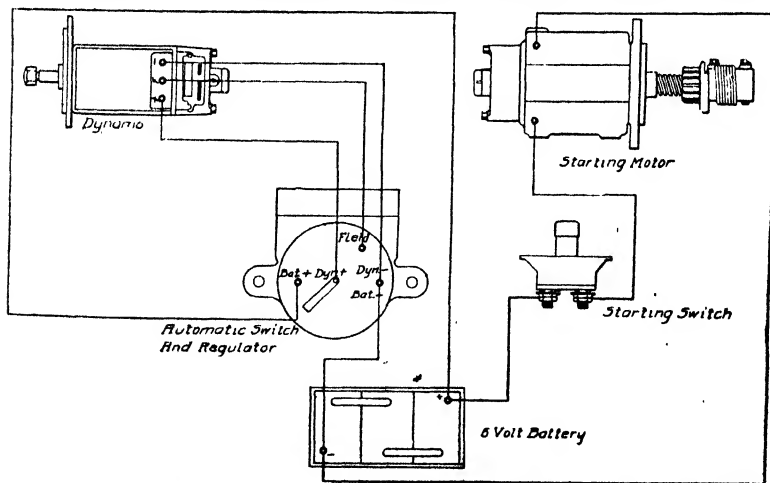

Fig. 279. Wiring Diagram for Dyneto Two-Wire System
**Wiring Diagrams.** Either the single- or the two-wire system of wiring is employed, according to the car on which the system is installed. Fig. 279 shows the one-wire, or grounded, system, and Fig. 279 shows the two-wire system.